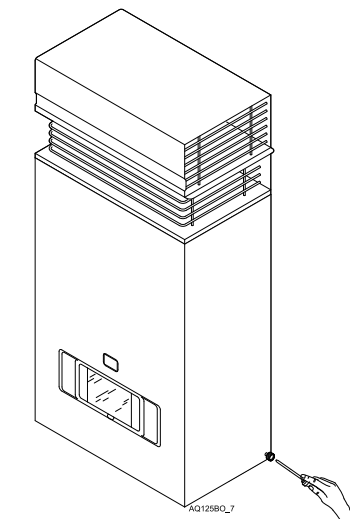

Fig. 6 Remove front cover
- Loosen the two screws located on the sides of the front panel, see Fig. 6.